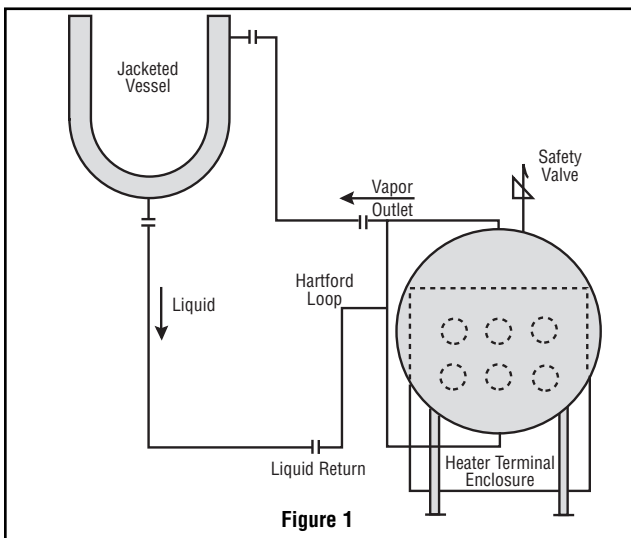

Figure 1
A. Gravity return type: The simplest and most easily operated type of vaporizer is one in which the condensate from the heating equipment is returned to the vaporizer by gravity, thus providing a system without moving parts. Such a system is possible if there is sufficient difference in elevation between the process and the vaporizer so the static liquid head will counter-balance all frictional losses in the vaporizer, vapor piping process and condensate return piping without flooding the heated equipment. See Figure 1 for a typical schematic piping diagram.
A Hartford Loop consists of a line without valves outside of the vaporizer connecting the vapor outlet and the condensate inlet. The condensate return line is connected to the vapor-condensate line or loop at the same elevation as the lowest permissible level in the vaporizer. Thus, a vacuum in the heated equipment can then pull liquid from the vaporizer (or a closed valve in the vapor line can force liquid from the vaporizer) only until the level in the vaporizer falls to the level of this connection. Also, the resultant liquid hammering will give warning that the liquid level in the vaporizer is too low. (See Figure 1 below.)